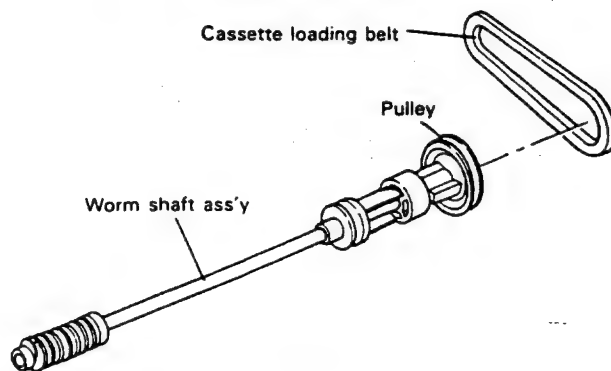

Figure 1-4.
• Replacement (Fig. 1-4)
1. Remove the start sensor PWB and worm bracket from the cassette housing frame (R).
2. Remove the worm shaft assembly, pulley and cassette loading belt from the cassette housing frame (R).